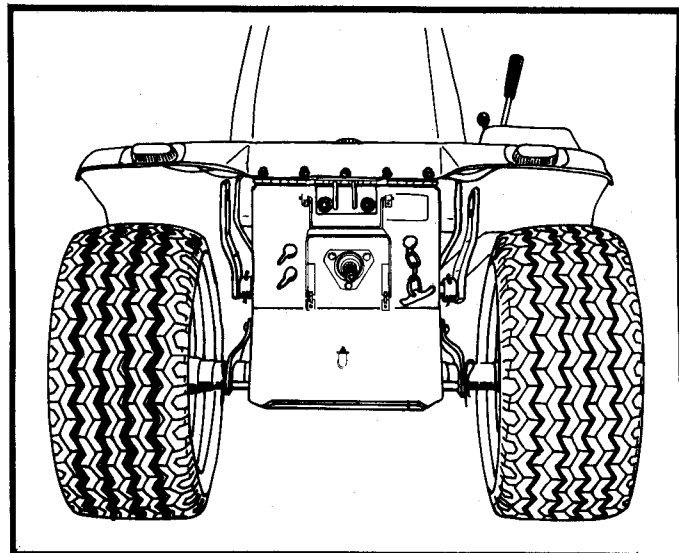

FIGURE 8
6. On models with PTO shield cover, position shield to enclose the PTO shaft. Secure PTO shield as shown in Figure 8.